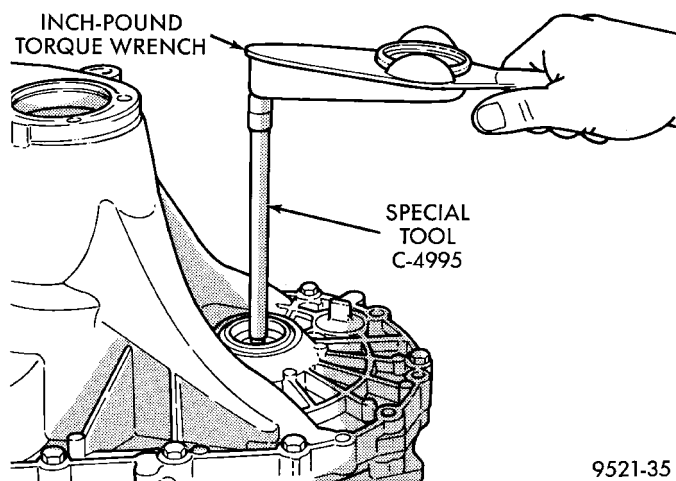

Fig. 142 Checking Differential Bearing Turning Torque
(7) The shim required for proper bearing preload is the **total of end play, plus (constant) preload of 0.18mm (0.007 in.)**. Never combine shims to obtain the required preload.
(8) Remove case bolts. Remove clutch bellhousing differential bearing cup. Install shim(s) selected in Step 7. Then press the bearing cup into clutch bellhousing.
(9) Install clutch bellhousing. Install and torque case bolts to 26 N·m (19 ft. lbs.).
(10) Using Special Tool C-4995 and an inch-pound torque wrench, check turning torque of the differential assembly (Fig. 142). **The turning torque should be 6 to 12 in. lbs. If the turning torque is too high, install a 0.05mm (0.002 inch) thinner**